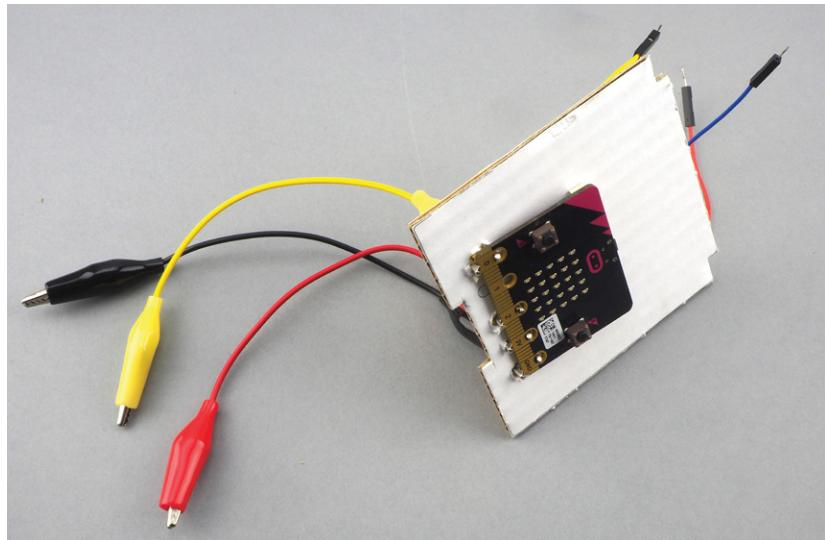

Figure 6-13: Attaching the micro:bit to the front of the cardboard
10. To connect the micro:bit to the servomotor, you'll need to attach three alligator clips with male jumper cables on one end. Clip a yellow alligator clip with a male jumper cable to pin 2. Then, pull back the insulating sheath on the red alligator clip already attached to the 3V, expose some of the metal, and clip the red alligator clip with male jumper cable to the red clip. Do the same with the black GND cable, pulling back the insulating sheath of GND's black alligator clip and attaching the black alligator to male jumper cable (Figure 6-13).